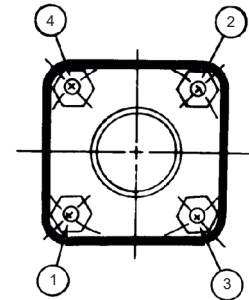

FIGURE 3
- Sight flow indicators should be disassembled by holding sight flow indicator firmly and loosening bolts by following the bolt loosening sequence shown in Figure 3.